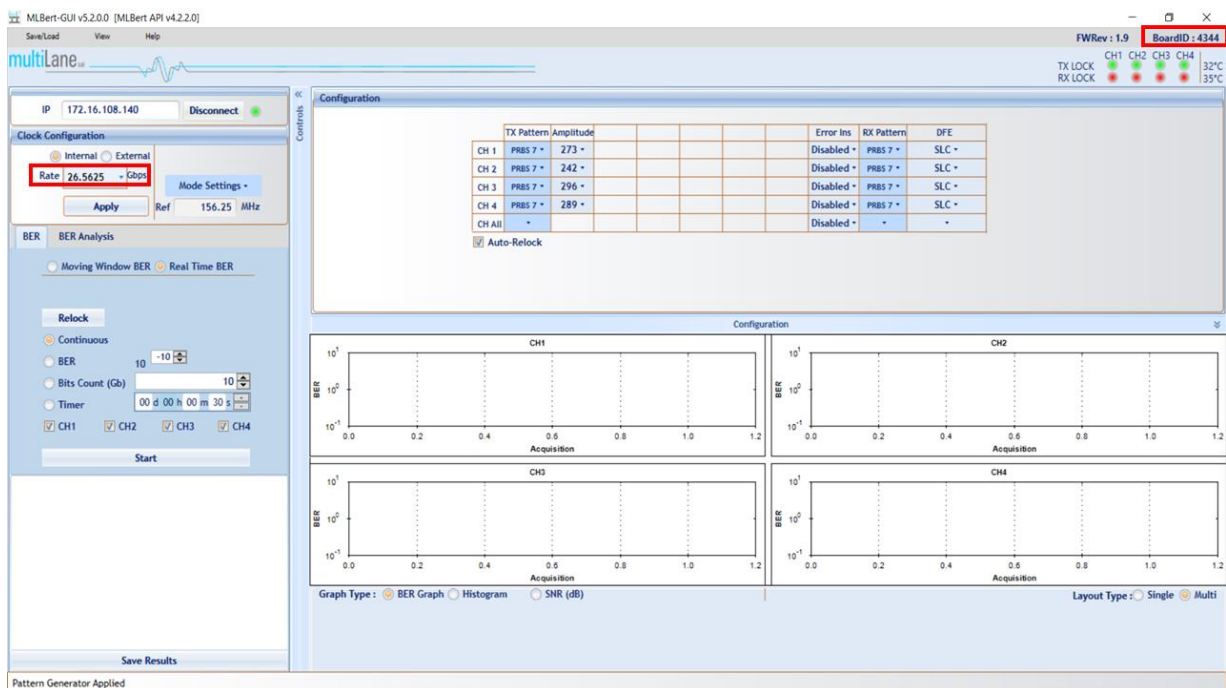
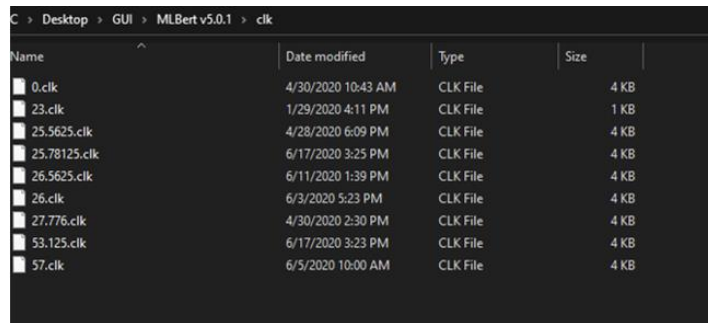

Figure 15: MLBERT-GUI
Figure 16: Copying the Clock File
1. Open the windows BERT GUI and connect to your BERT while applying the desired rate that is missing from the Calibration GUI. Also memorize your “board ID” that appears in the upper right of the MLBERT-GUI, shown in Figure 15. When the apply button is clicked on a specific rate, a clock file for the custom line rate will be automatically generated and stored in the BERT GUI installation destination file under the clock line rate’s name. For example, “26.5625.clk” as shown in Figure 15 and Figure 16.